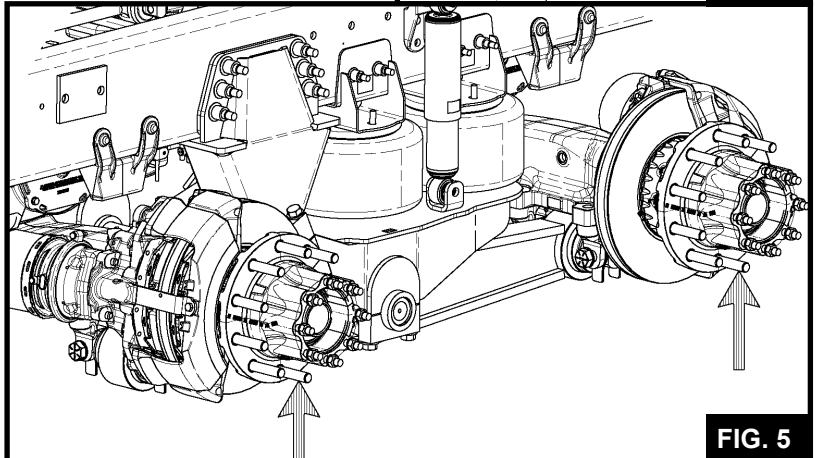

FIG. 5
- 6.5 Support the rear of the frame at this height and support the axles (wheel ends) such that the trailing arm is in the level position (See FIG. 5).